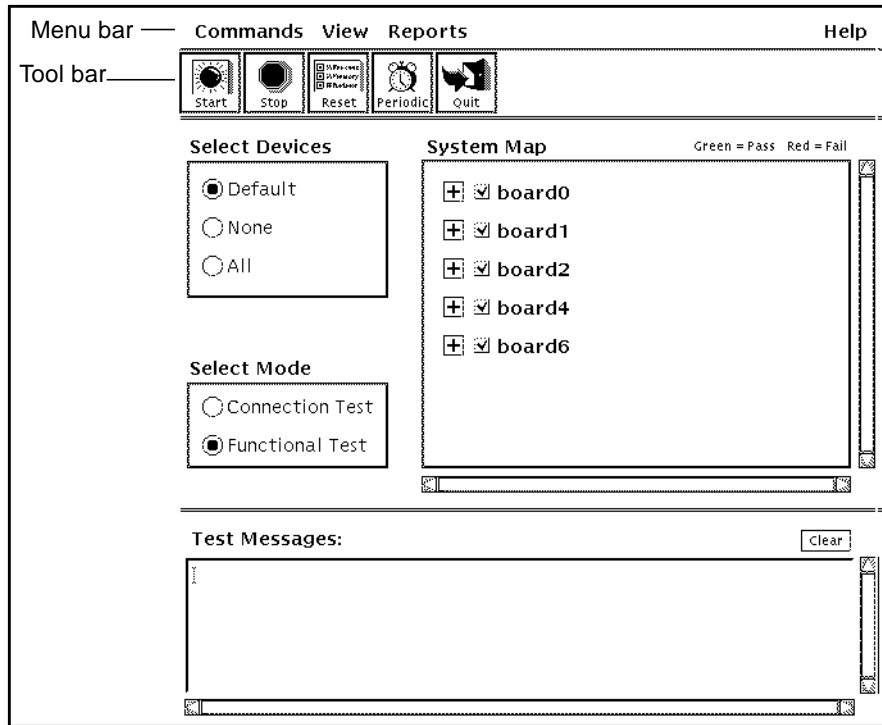
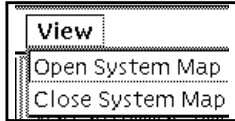

FIGURE 3-6 SunVTS Online Diagnostic Tool
FIGURE 3-14 View Menu
The Online Diagnostics icon (see FIGURE 3-1) launches the SunVTS Online GUI. This GUI is used to perform online diagnostics and troubleshoot components (see FIGURE 3-6).
To schedule future testing, either periodically or for one time, use the Periodic Testing feature under the Commands menu. When you click the Online Diagnostics console, the following screen is displayed (see FIGURE 3-6).
TABLE 3-3 describes the features shown in FIGURE 3-6.
- To run a test on one device or just a few devices, select None. Select the device or devices you want to test by clicking the device name or checkbox (see FIGURE 3-6).
The View menu on the main SunVTS Online Diagnostics screen (see FIGURE 3-14) lets you expand or contract the System Map (see FIGURE 3-6) and has two options: